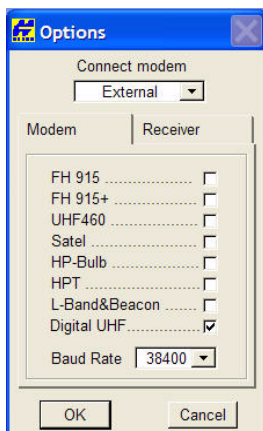

Figure 2-12. Tools Options Screen
6. Confirm that all the radio modem options have a check mark, as shown in Figure 2-12. Once configured, click **OK**.